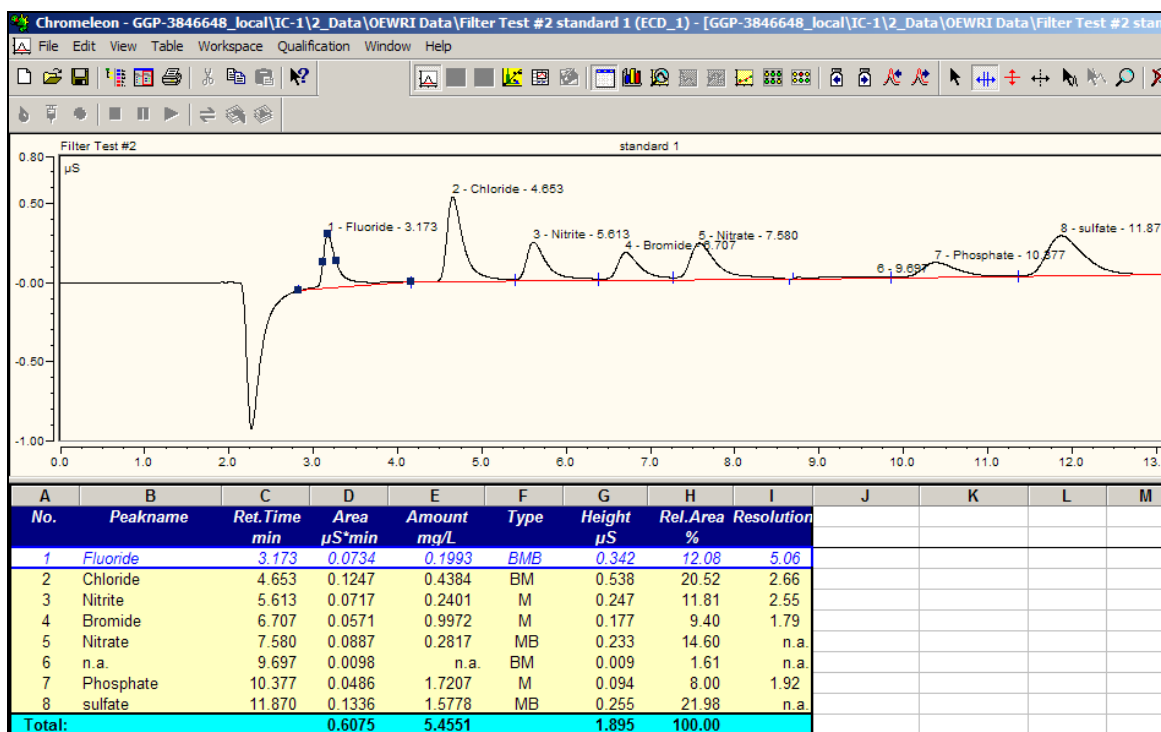

Figure 10. Peak data window.
- f. After the three standards have been analyzed, double click on **standard 1**. A new window containing the peak data will be displayed similar to Figure 10 below.
- g. If the window does not look like Figure 10, stop the analysis and contact the laboratory supervisor.